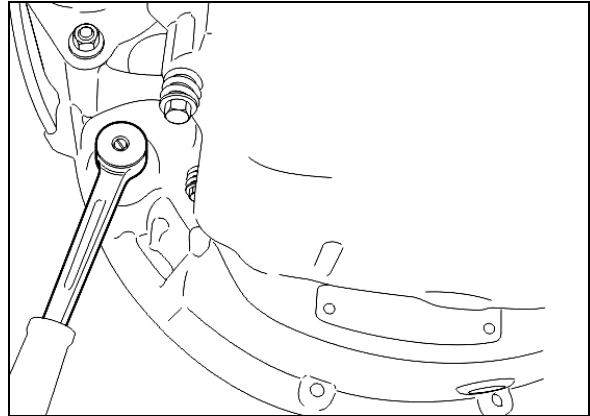

FIGURE 11: VOLVO ENGINE CRANKING POSITION
*Remove starter motor located on engine L.H. side. Removing the starter motor will allow access to unfasten the 12 converter-to-flexible plate attaching screws. Remove the plug located below starter motor and install cranking tool (88800014). Cranking the engine to gain access to the attaching screws may be done by turning the cranking tool using a suitable adapter (fig. 11).*
*Remove the plug located below starter motor and install cranking tool (88800014). Crank the engine to gain access to the threaded holes by turning the cranking tool using a suitable adapter (Refer to fig. 11).*